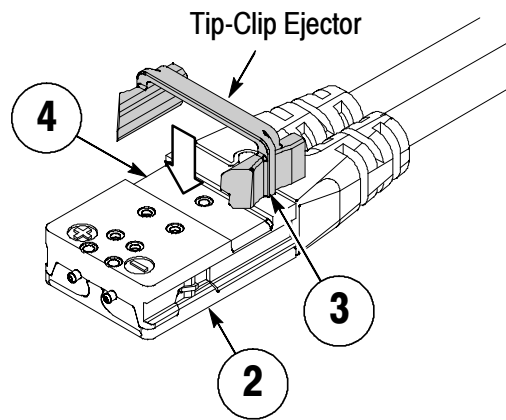

Figure 9: Attaching a Tip-Clip Ejector
2. Turn the probe tip over with the back of the probe tip facing you. See Figure 9.